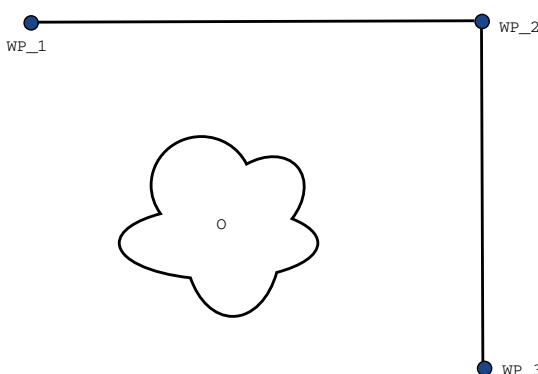

Figure 15.2: WP\_1: initial position, WP\_2: via point, WP\_3: pick up position, O: obstacle.
**Example** Consider a pick and place application as an example (see figure 15.2), where the robot is currently at Waypoint 1 (WP\_1), and it needs to pick up an object at Waypoint 3 (WP\_3). To avoid collisions with the object and other obstacles (O), the robot must approach WP\_3 in the direction coming from Waypoint 2 (WP\_2). So three waypoints are introduced to create a path that fulfils the requirements.